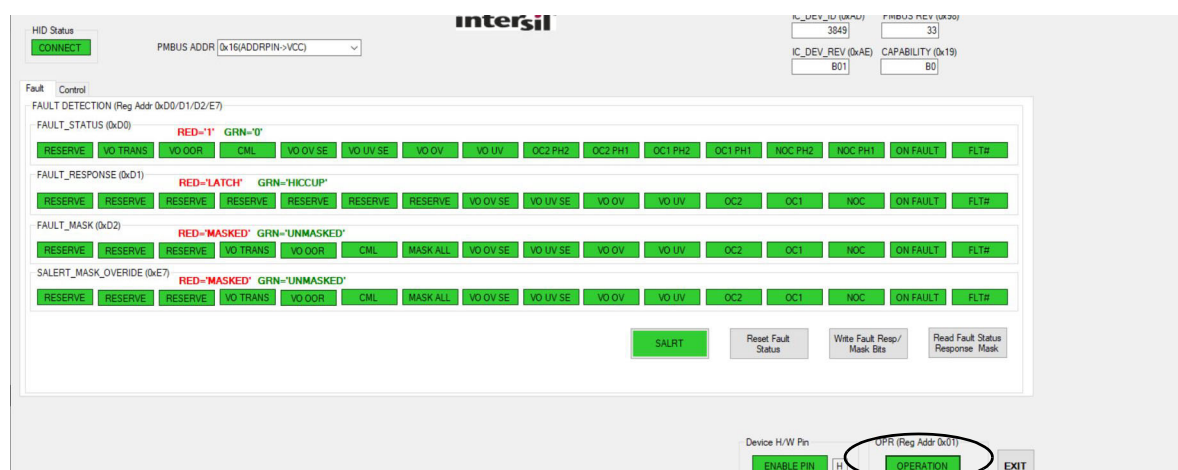

Figure 9. Click the OPERATION button
18. Enable power-up with the **OPERATION** button as shown in Figure 9.